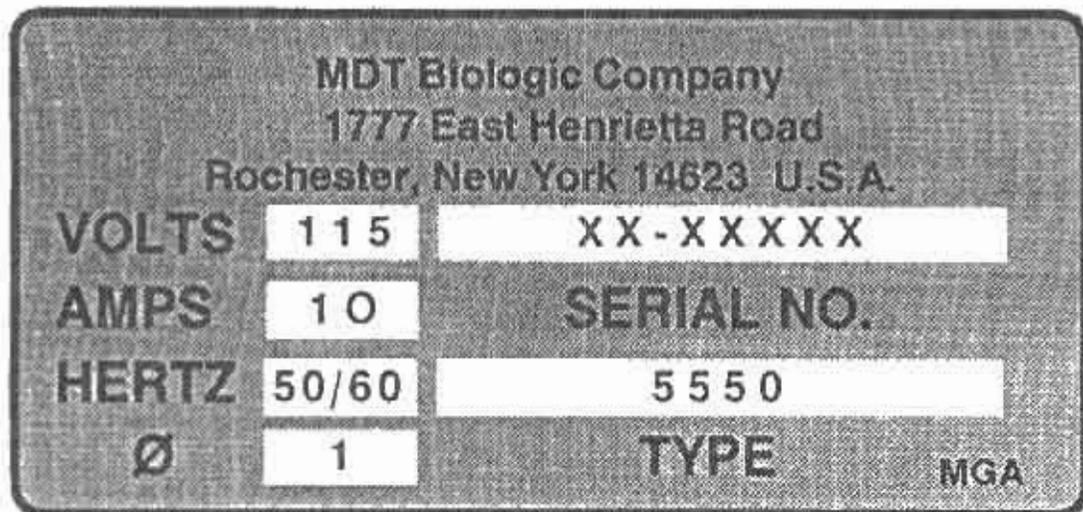

Figure 1-3. Manufacturer data plate.
(1) Two manufacturer data plates, located on the control module door and on the electrical power junction box cover, are identical and depicted in figure 1-3. The data plate voltage (115) is a nominal value and 120-volt is the value used elsewhere in the manual.